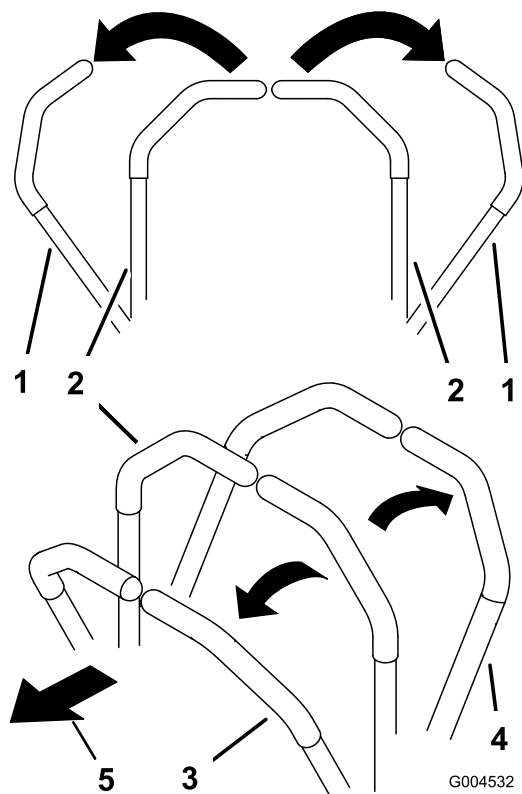

Figure 23
- To move straight rearward, slowly pull the motion-control levers rearward (Figure 23).
- To turn, slow the machine by pulling back on both levers and then push forward on the lever on the opposite side from which you want to turn (Figure 23).